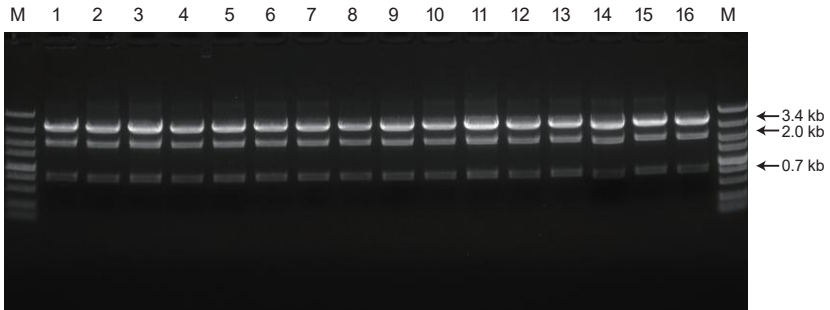

Fig 7. Agarose Gel Electrophoresis of Enzyme Digestion Products
- ◇ Inoculate the remaining bacterial solution of positive clones into the liquid LB medium (contains appropriate antibiotics) for overnight incubation. Then, extract the plasmid for restriction endonuclease digestion identification (Fig 7), or directly perform sequencing.